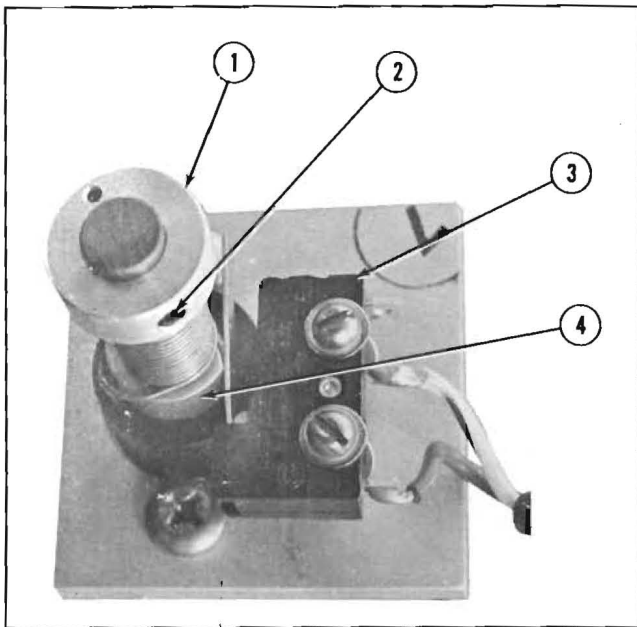

Figure 7-5. Tension Post Adjustments
7.5 Tension Posts (Figure 7-5)